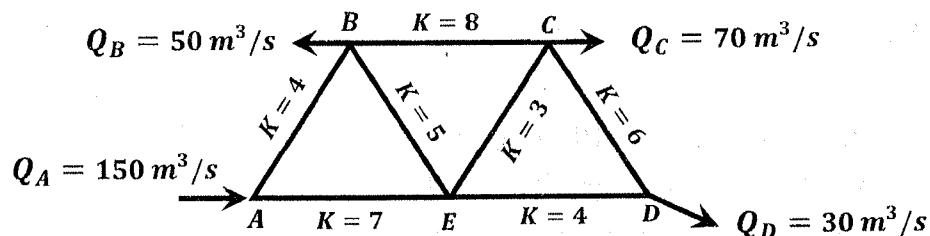

Figure Q2
- [Q2] A water distribution system in a factory is shown in **Figure Q2**. Water is supplied to the network at point 'A' and is taken out at points 'B', 'C', and 'D'. Determine the flow rate in each pipe using the quantity balancing method. (calculations should be performed up to two iterations) [25 Marks]